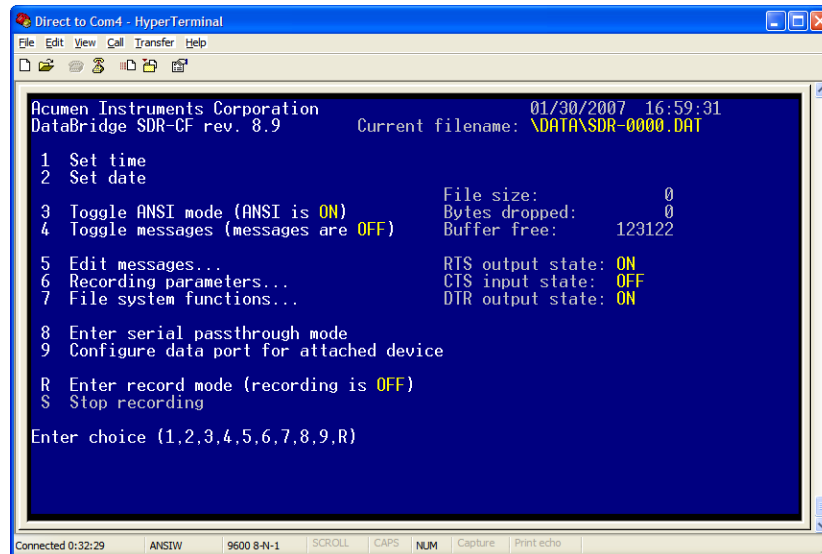

Figure 4.1. The DataBridge SDR-CF configuration menu.
The SDR's core functions are accessed from the Configuration menu (see Figure 4.1) using terminal software. The Configuration menu includes functions for controlling both the SDR and the attached device. A number of the Configuration menu items either prompt for input or execute immediately, and therefore have no associated sub-menu.
From the main configuration menu (see Figure 4.1), typing **4** enables or disables all messages. If you are using the message feature, be sure the main menu displays “messages are ON” after menu item 4.